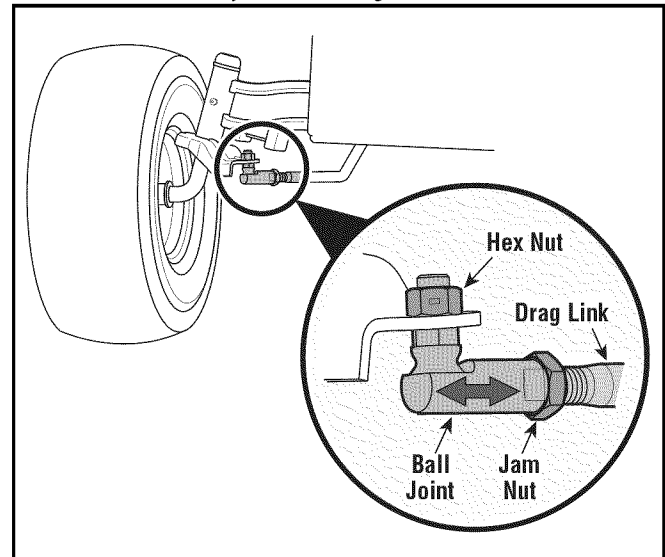

Figure 10
- Loosen the jam nut found on the drag link at the rear of the ball joint. See Figure 10.